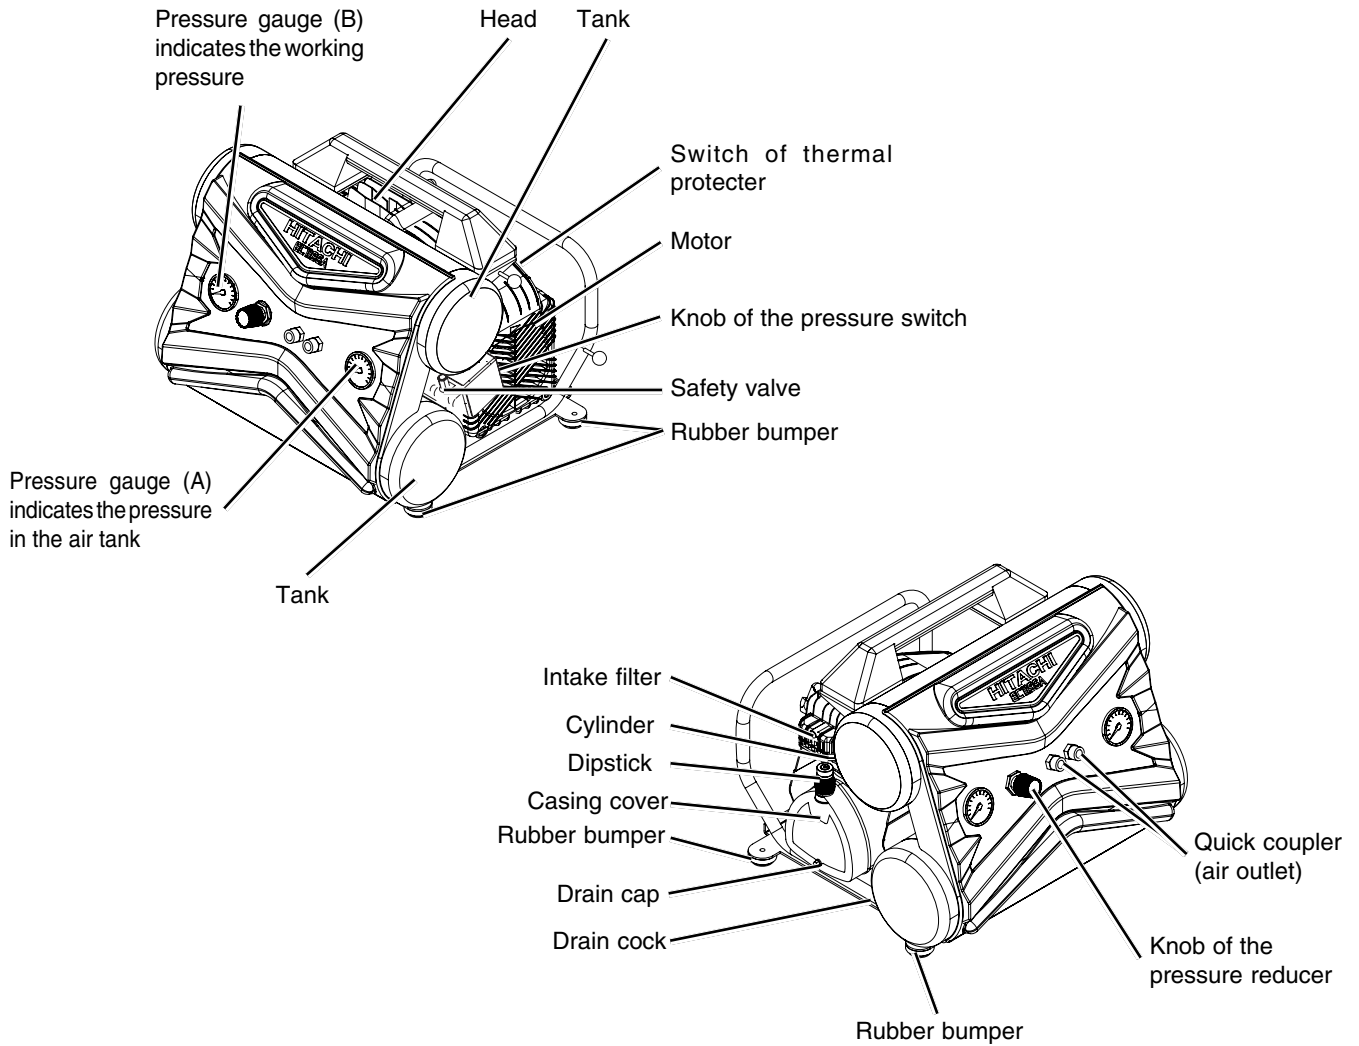
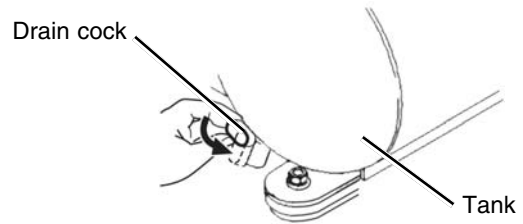
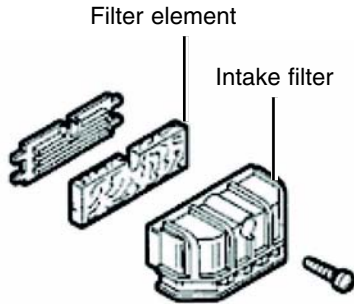
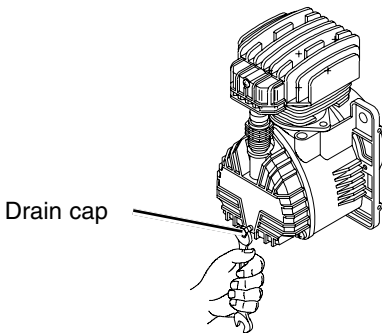

Fig.1
Fig.7
Fig.9
Fig.10
NOTE: When operating or storing the compressor, set 4 rubber bumpers downward on the floor (Refer to Fig.1)
- (1) Push the knob of the pressure switch to "OFF" (Refer to Fig. 1 and Fig. 2).
- (2) Unplug the plug from power source.
- (3) Open the drain cock located at the lower part of the tank (Fig. 7).
Remove the intake filter (Refer to Fig. 1) every 50 hours or once a week and clean the inside of the intake filter and the filter element with compressed air (Fig. 9). Use a phillips screwdriver to disassemble intake filter.
Drain tank daily or after 4 hours of use. Open drain cock and tilt compressor to empty accumulated water (Refer to Fig. 7).
- (1) Within the first 50 hours of operation, completely replace the oil of the pumping element. Unfasten the oil drain cap on the casing cover, drain all the oil, and screw the cap back on (Refer to Fig.1 and to Fig.10).